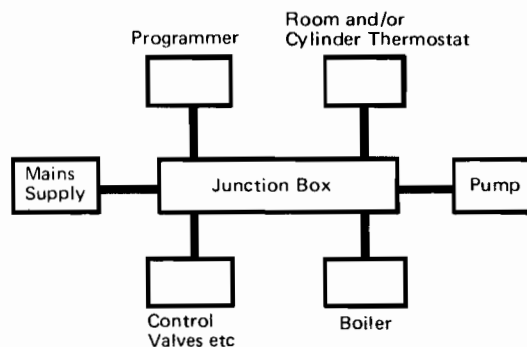

FIG. 4 PRINCIPLE OF WIRING
5. WIRING (See Figs.4 to 10)
The boiler terminal strip is not designed to accept wiring from all the on-site system controls and therefore, the installer will need to incorporate a suitable junction box. The principle of wiring up the boiler and its controls is shown in Fig.4. However, the layout of a particular system will itself govern the most economical location for the junction box and its terminals.